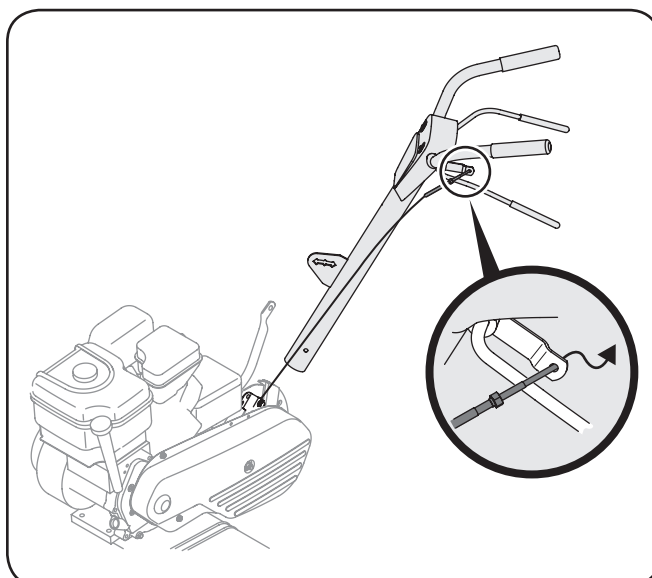

Figure 3-2
2. Hook the "Z" end of the forward clutch cable into the tine engagement lever Figure 3-2.